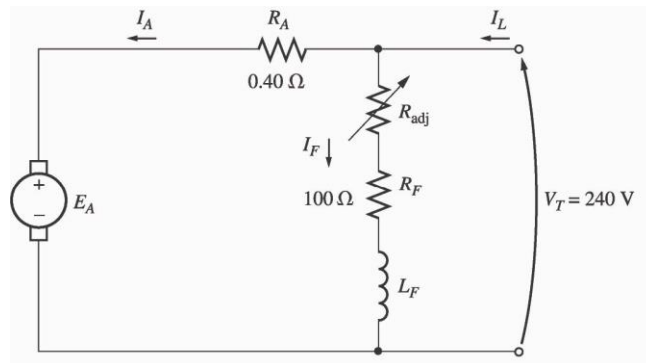
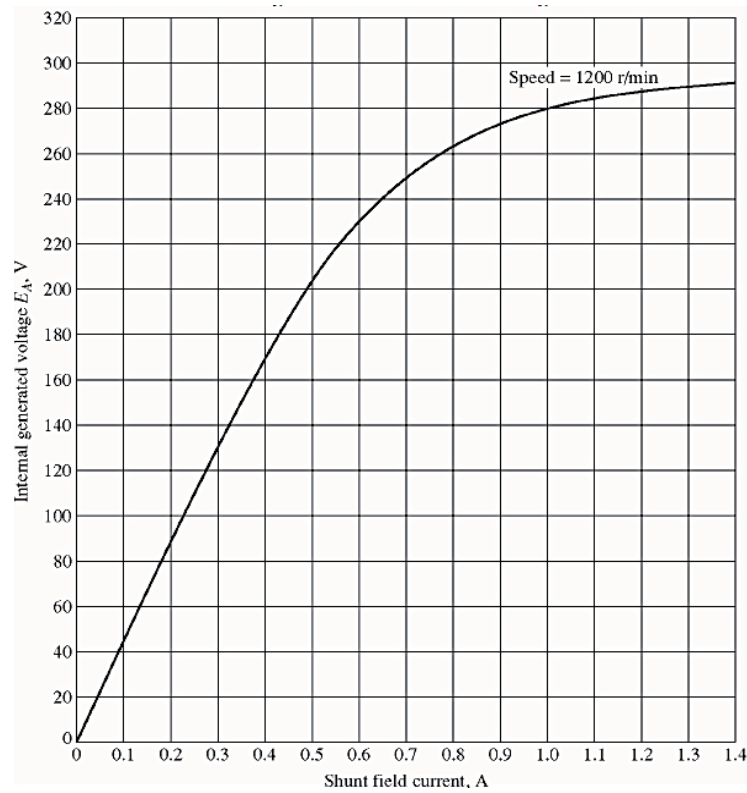

Figure 3.2 Motor equivalent circuit
Figure 3.3 Magnetization curve
- (b) If the adjustable resistor, R_{adj} for circuit in Figure 3.2 is adjusted to 175Ω , what is the rotational speed of the motor at no-load condition if the magnetization curve is as in Figure 3.3?